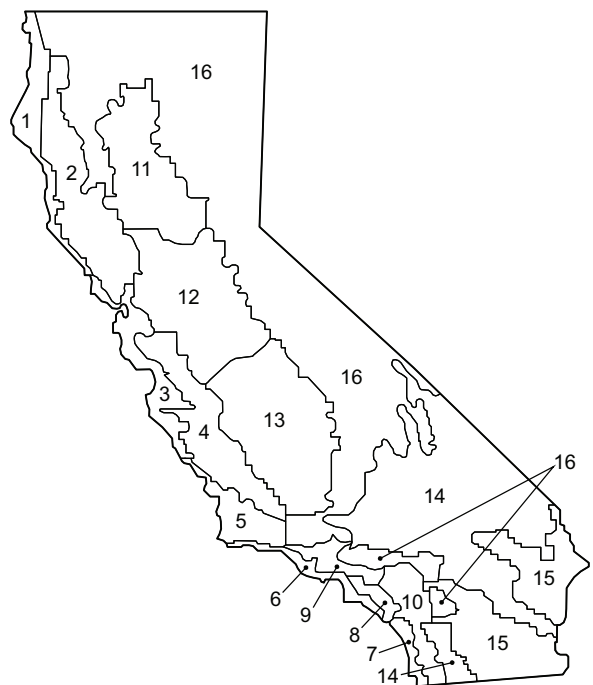

Fig. 86 – California Title 24 Zones
b. Refer to Fig. 86 for map of California Title 24 zones.